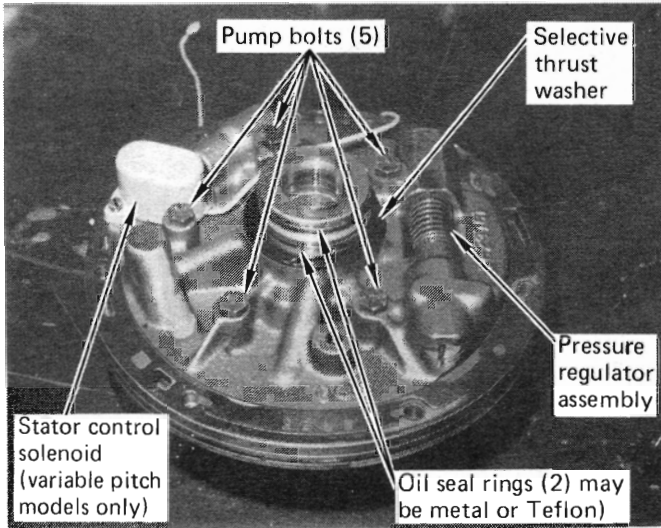
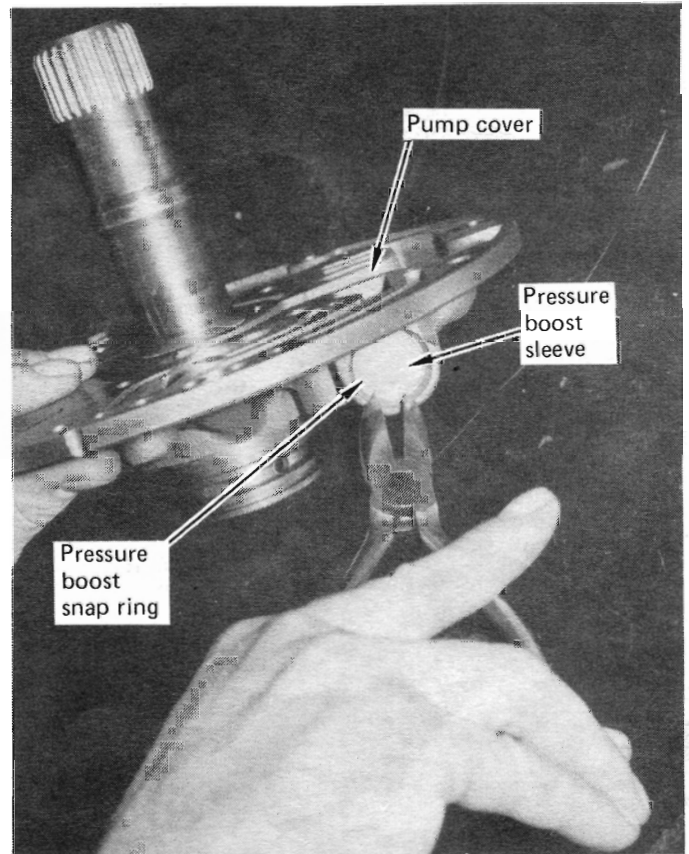
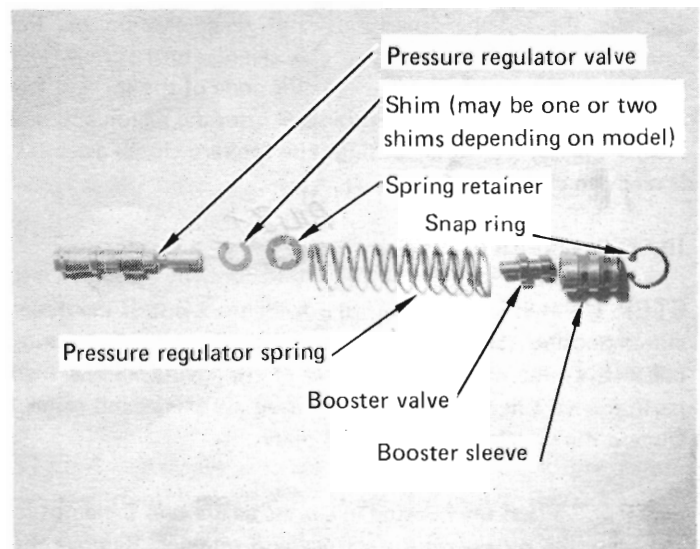

FIGURE 16
FIGURE 18
FIGURE 19
STEP 1. Remove stator control solenoid on variable pitch models. (See Fig. 16) Remove and discard gasket.
STEP 2. Remove five oil pump bolts. (See Fig. 16) This will separate the pump body (front half) from the pump cover (rear half). Be careful when handling the pump not to damage pump surfaces or seal ring grooves.
STEP 4. Remove and discard two metal hook-type or removable teflon seal rings from the back of the cover. (See Fig. 16) Remove the selective plastic thrust washer. Use a pair of snap ring pliers to remove the pressure boost snap ring. (See Fig. 18) Remove pressure boost sleeve and valve, pressure regulator spring and spring retainer, one or two horseshoe-shaped shims, and regulator valve. (See Fig. 19) Hold your hand over the boost sleeve during snap ring removal to prevent parts from flying out and getting lost. Remove the pressure regulator plug and pin from the opposite end of the regulator bore. Keep all the pump parts together. The pump is now
STEP 4. Install pressure regulator valve. (See Fig. 19) Install two horseshoe shaped shims (extra shim supplied with kit if your transmission originally equipped with only one shim). Install spring retainer with tabs pointing towards regulator spring.